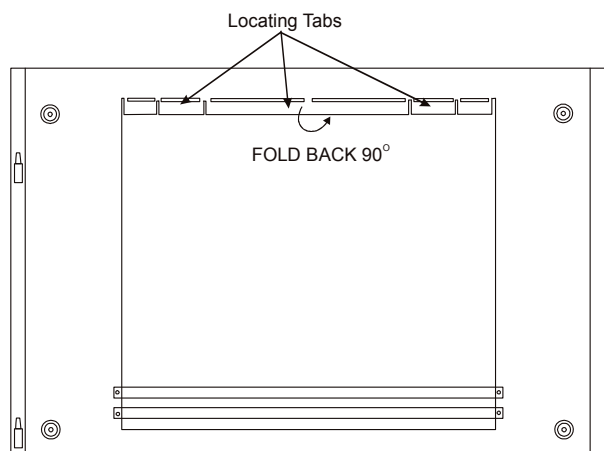

Figure 60
4. Referring to **Figure 60**, fold the three locating tabs backwards.